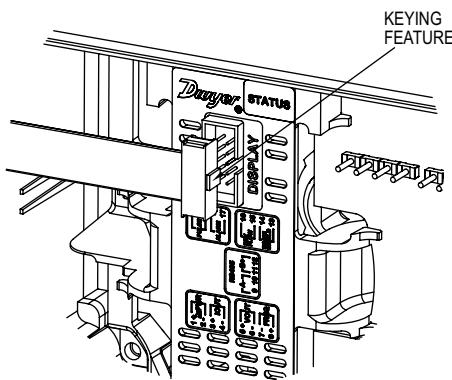

Figure 6: Connecting the display for field configurable models
- d. If using an A-IEF-DSP or the A-IEF-KIT, insert one connector of the ribbon cable supplied in the setup kit into the connector labeled "Display" in the middle of the unit. Be sure to orient the keying feature/tab. See Figure 6 below: